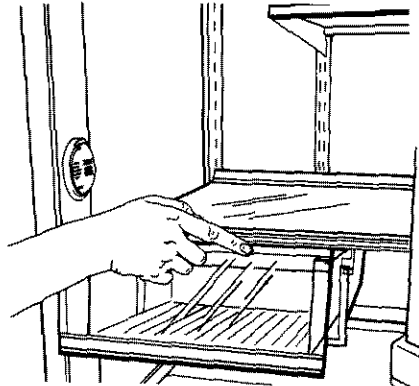

FIGURE 55
1. Pull the drawer three quarters of the way out. See Figure 55.